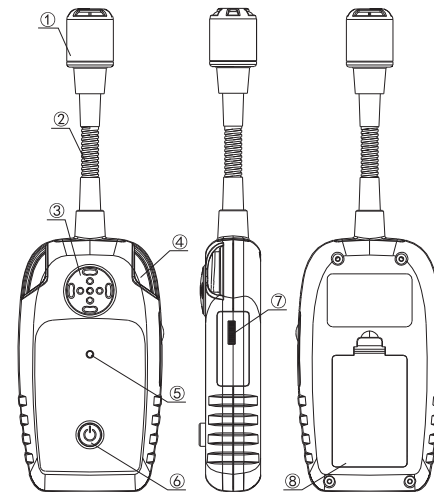

Figure 1
F. Name of parts (Figure 1)
- ① Probe cap and built-in sensor.
- ② Goose neck
- ③ Countersink
- ④ Alarm indication
- ⑤ Power indication (after startup)
- ⑥ Open/shut down key.
- ⑦ Beep sound rate adjustment
- ⑧ Battery door